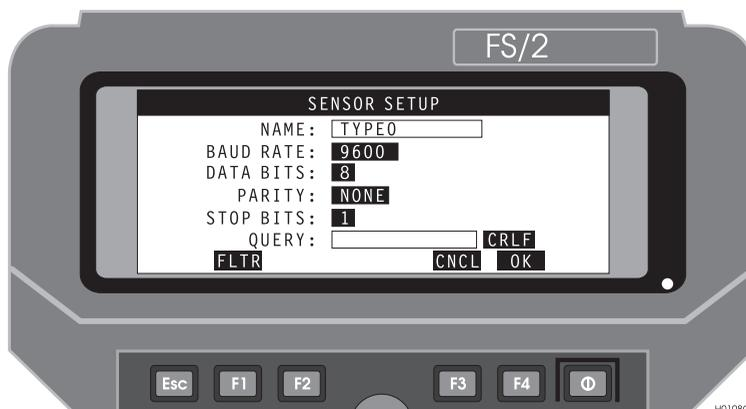

Figure 3.24: Sensor Setup Screen
3. If the sensor type is listed, use the up/down arrows to highlight it, and press **F4 (OK)**.
4. If the sensor type is not listed or you want to change or verify communication settings, press **F1 (SSET)** to call the Sensor Setup screen, Figure 3.24, which lets you define the sensor device parameters.